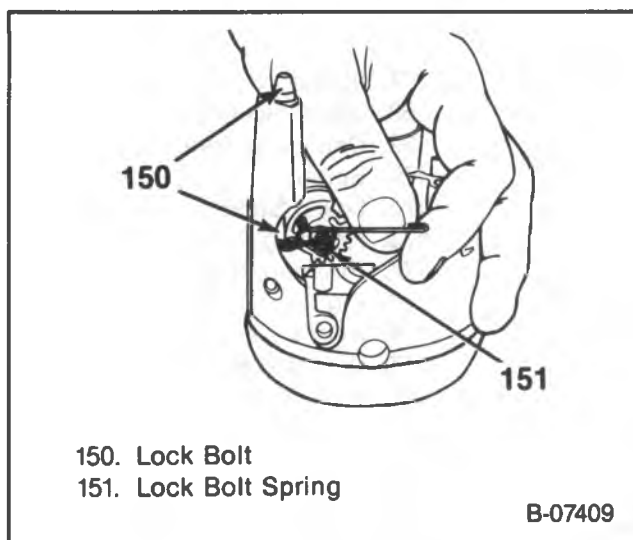
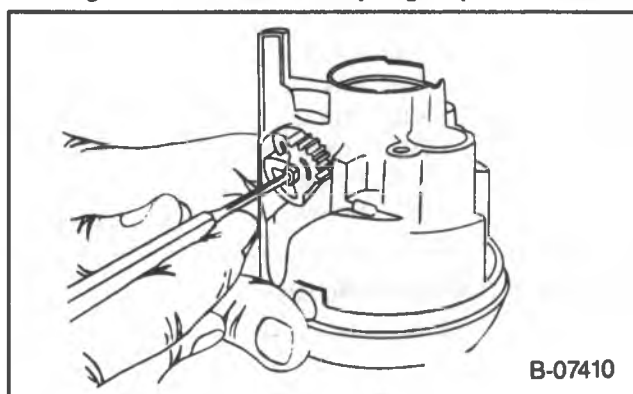

Figure 35 — Lock Bolt Spring Replacement
Figure 36 — Sector Drive Shaft Removal
23. Lock plate (181) and washer (182).
- Slide the lock plate (181) out of the jacket notches by tipping it down toward the housing hub and sliding it under the jacket opening.
24. Shift lever housing (184) from the mast jacket (transmission control lock tube housing on floor shift models.)
25. Tilt lever opening shield (144).
26. Lock bolt spring (151). Remove the retaining screws (148) and move the spring clockwise to remove it from the bolt (figure 35).
27. Snap ring from the sector drive shaft (154).
- With a small punch, lightly tap the drive shaft from the sector (figure 36).
28. Drive shaft (154), sector (157) and lock bolt.
29. Rack (166) and rack spring (165).
30. Tilt release lever pin (162) using J 22635.
31. Release lever (163) and spring (161).